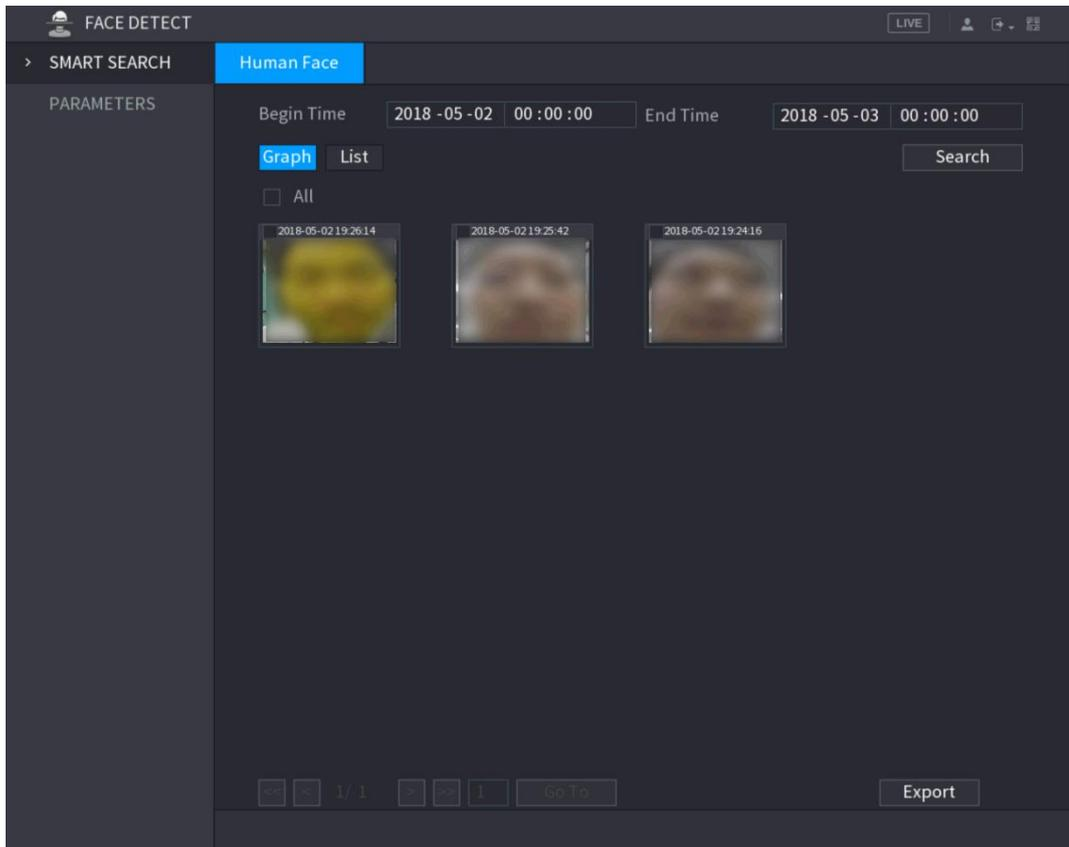
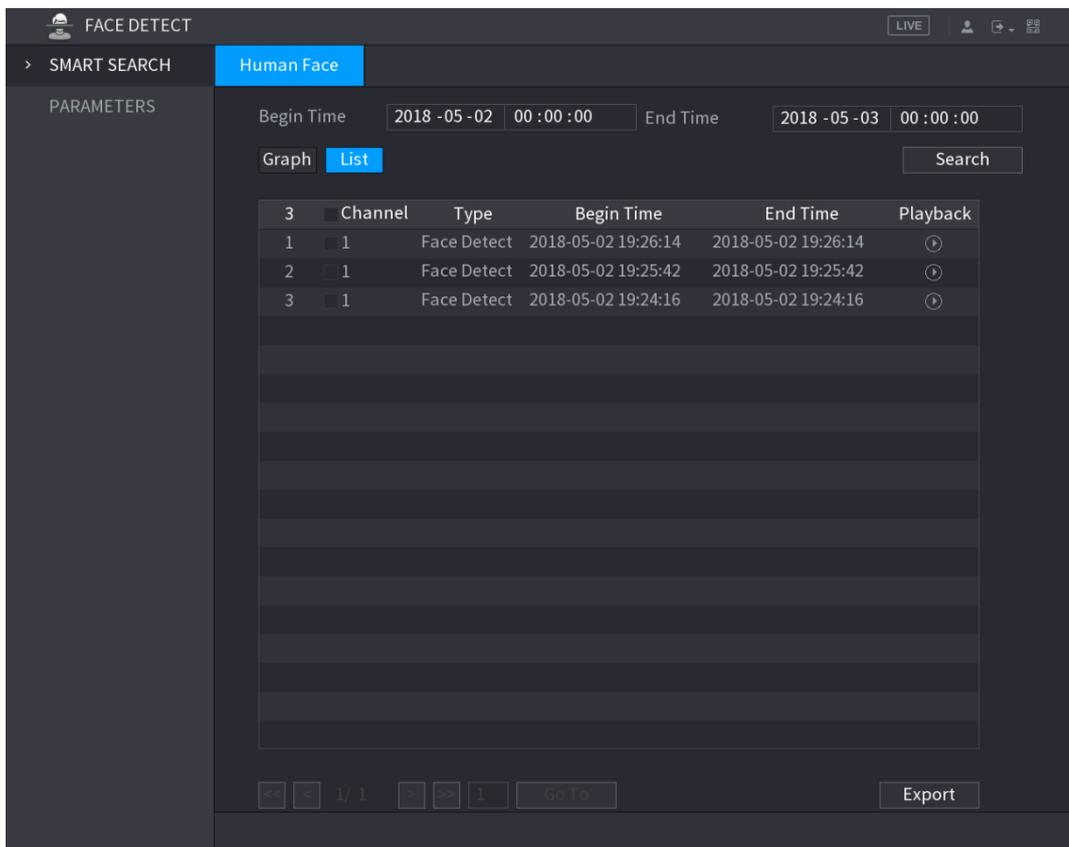
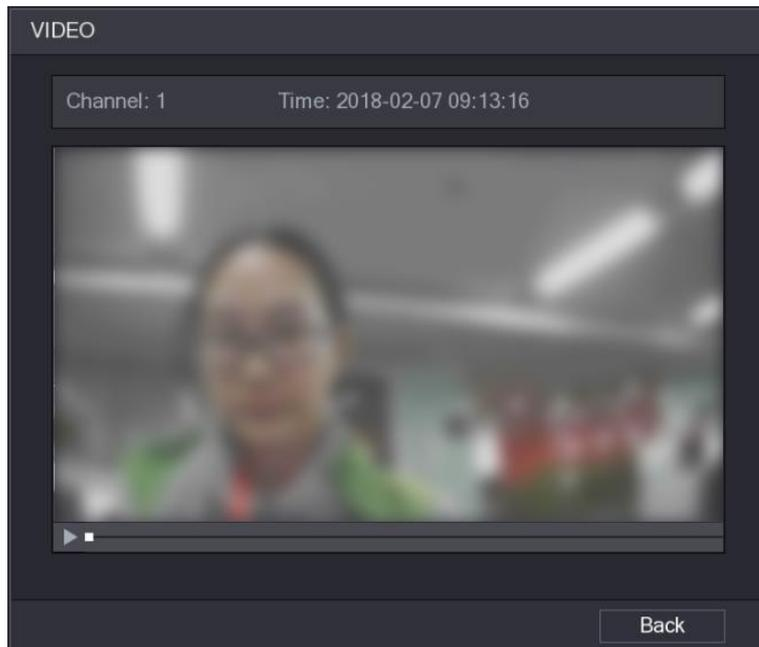

Figure 5-154
Figure 5-155
Figure 5-156
The faces searched in the defined period are displayed. See Figure 5-154 or Figure 5-155.
Step 1 On the displayed faces as shown in Figure 5-154, double-click on the face. The **VIDEO** interface is displayed. See Figure 5-156.